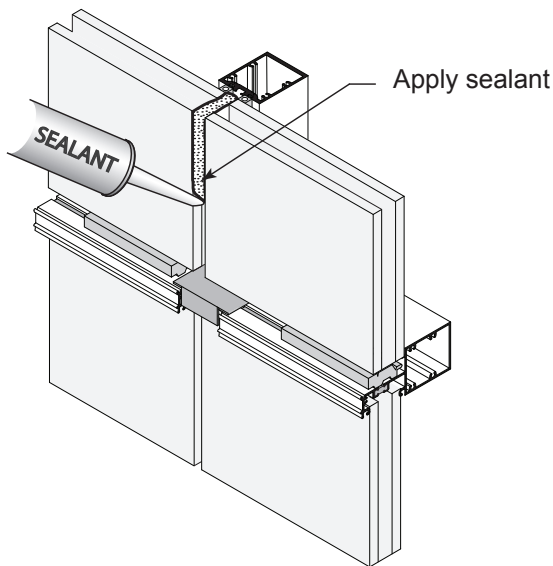

Fig.54.3
- C. Apply structural sealant as shown in **Fig 54.3**.